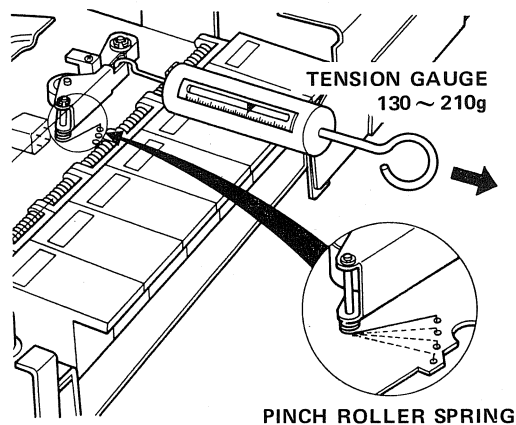

Fig. 8
2. Attach tension gauge as shown in Fig. 8, pull as indicated by arrow.
3. If proper tension reading is not obtained, refer to small insert in Fig. 8. Change anchoring of pinch roller spring (helical spring) to obtain proper tension.